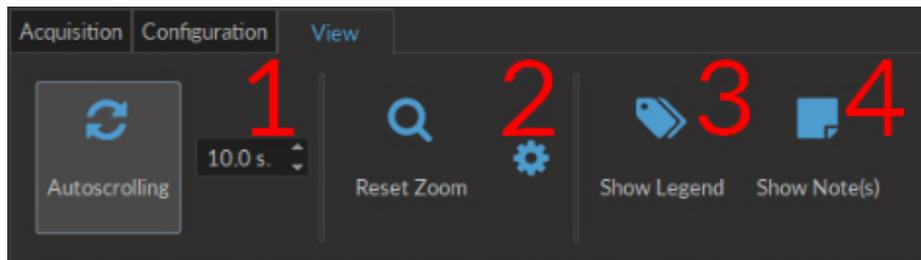
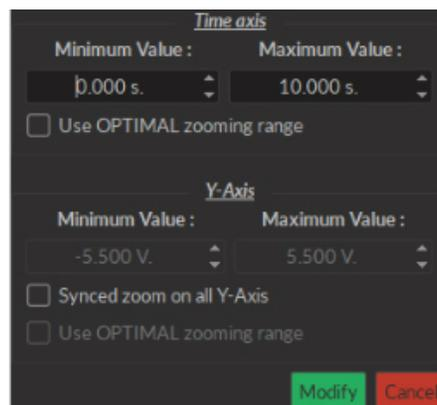
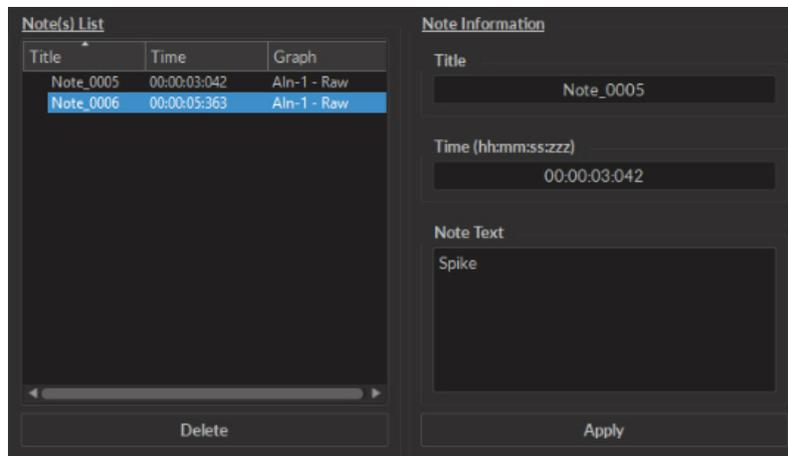

Figure 3.17: View Tab
Figure 3.18: Zooming Menu Window
Figure 3.20: Note Viewer Window
The **View Tab** (Fig. 3.17) is used to modify the presentation of graphs in the **Acquisition view**.
1. The **Autoscrolling** button (Fig. 3.17), when clicked, makes the graphs scroll as new data appears. The duration (in seconds) kept on display is defined in the box beside the button.
2. The **Reset Zoom** button (Fig. 3.17) sets the graph zoom to a pre-defined value. This value is defined using the **Zooming menu** (Fig. 3.18), accessed using the **Gear** button.
3. The **Show Legend** button (Fig. 3.17) will open the **Legend** window (Fig. 3.19). This window display each configured **Channel**, as well as its **Name**, its **Channel Mode**, **Trigger Mode** and **Trigger Source** if applicable. Selecting the button while a window is open will close the window.
4. The **Show Notes** button (Fig. 3.17) will open the **Note Viewer** window (Fig. 3.20). Selecting the button while a window is open will close the window.